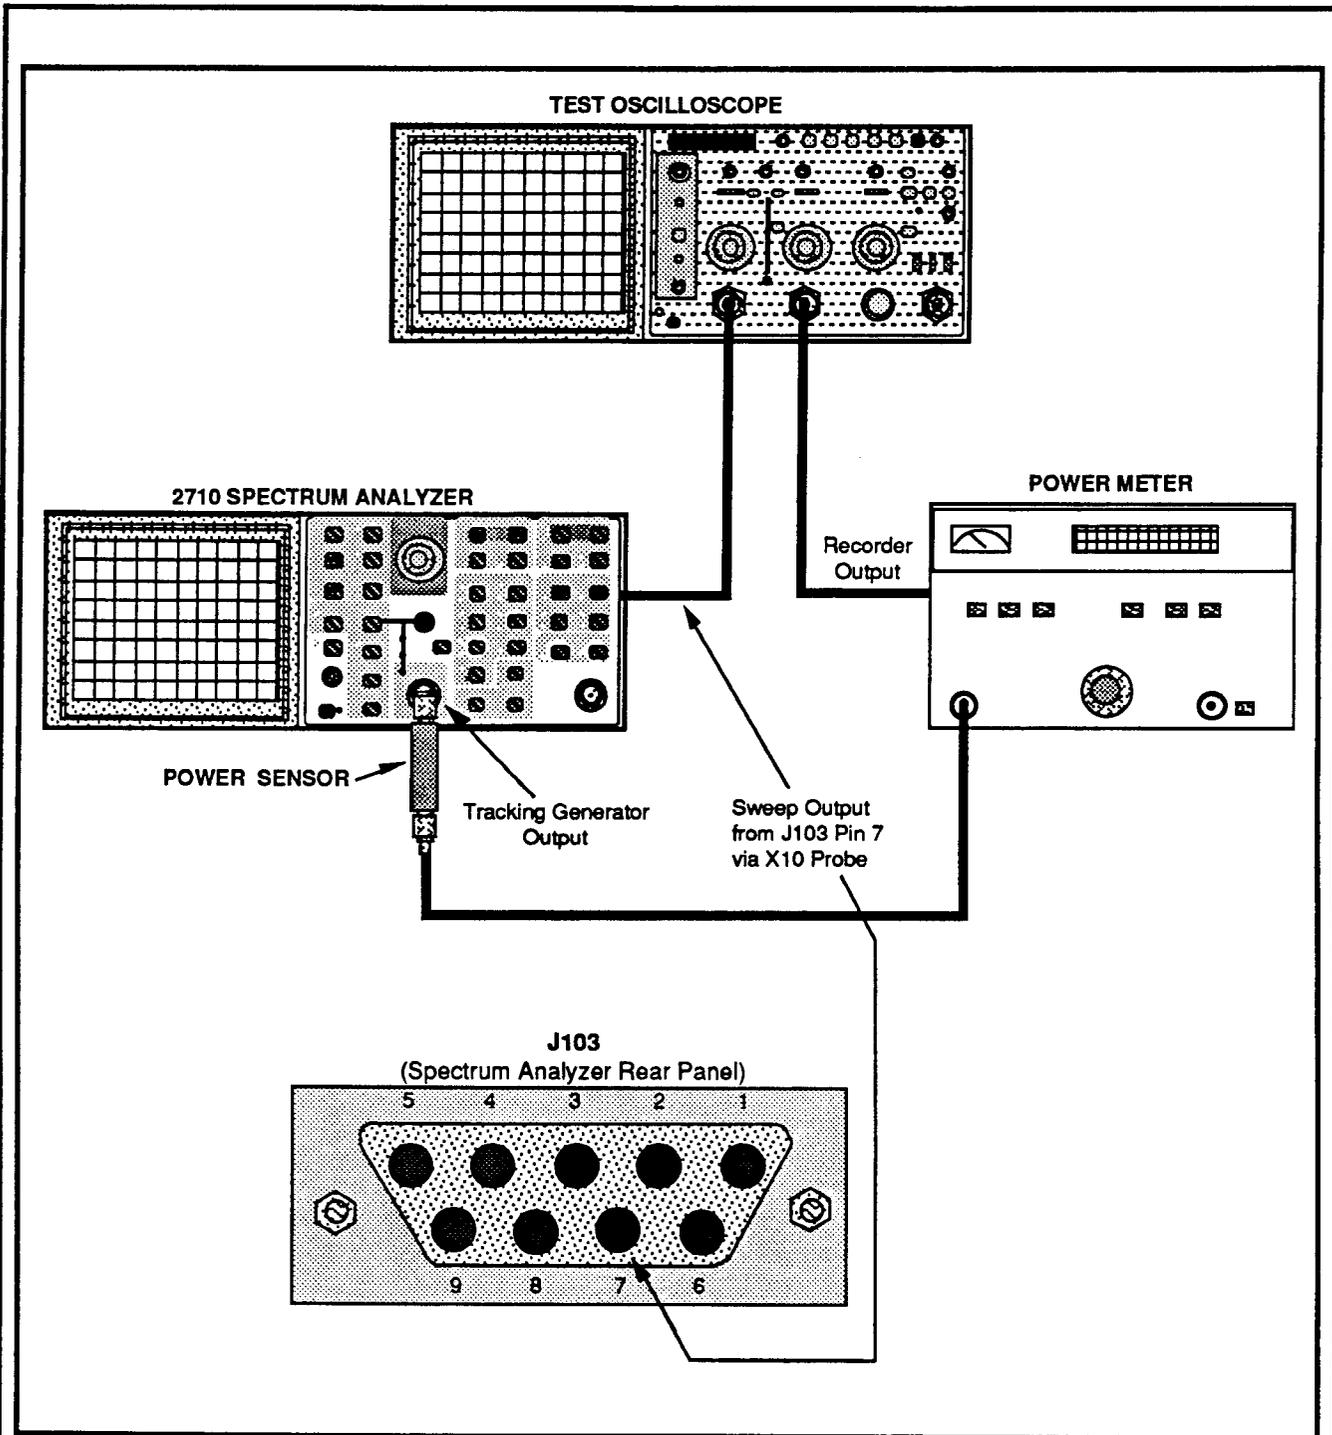

Figure 11. Test setup for measuring Tracking Generator flatness.
a. Connect the test equipment as shown in Figure 11.